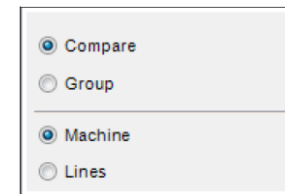

Figure 1: Analysis Focus features under the Performance Analysis Module in PLMS
1. Groups: check lines producing PNC products only; click on "Group" or "Compare" and "Machine" (fig 1)